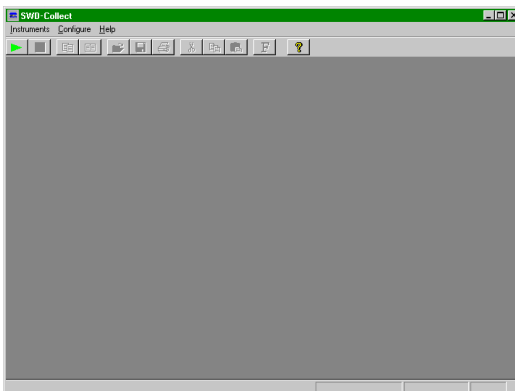

Figure 2.1: SWD-Collect ‘main screen’ - Access to the program’s features
Upon entering the program you will see the **SWD-Collect** ‘main screen’, as shown in Figure 2.1.
1. From the **SWD-Collect** ‘main screen’ (see Figure 2.1, Page 9), pull down the **I**nstruments menu.
1. From the **SWD-Collect** ‘main screen’ (see Figure 2.1, Page 9), click the ‘**O**pen’ button from the Toolbar, as shown here in the margin.